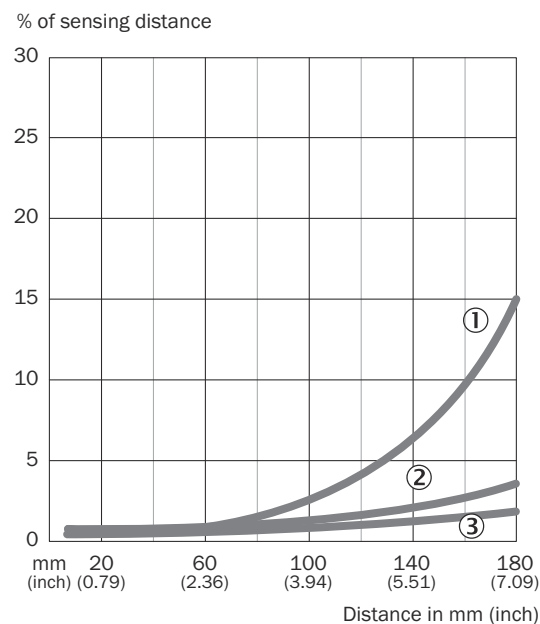

Figure 10: Characteristics
The minimum distance (= y) for the background suppression can be determined from the diagram [figure 10 ①] as follows: